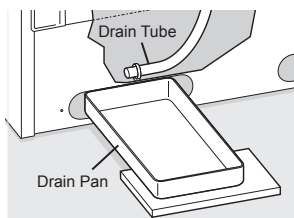

Figure 1B
To access external drain tube on models with a base panel, first remove the 2 screws from the base panel. Locate the drain (see figure 1B or 1C).
- For Figure 1B the drain hose is attached to the cabinet above the oval hole.